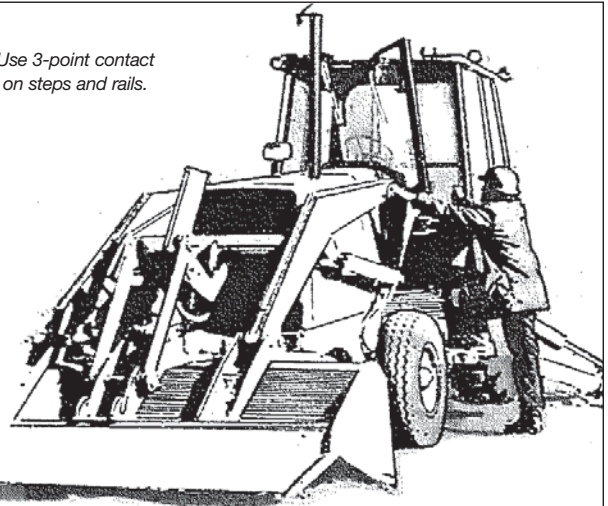

Figure 34
**Operators** — Improperly climbing on and off equipment has caused injuries to operators for many years. The best prevention is to maintain 3-point contact (Figure 34).